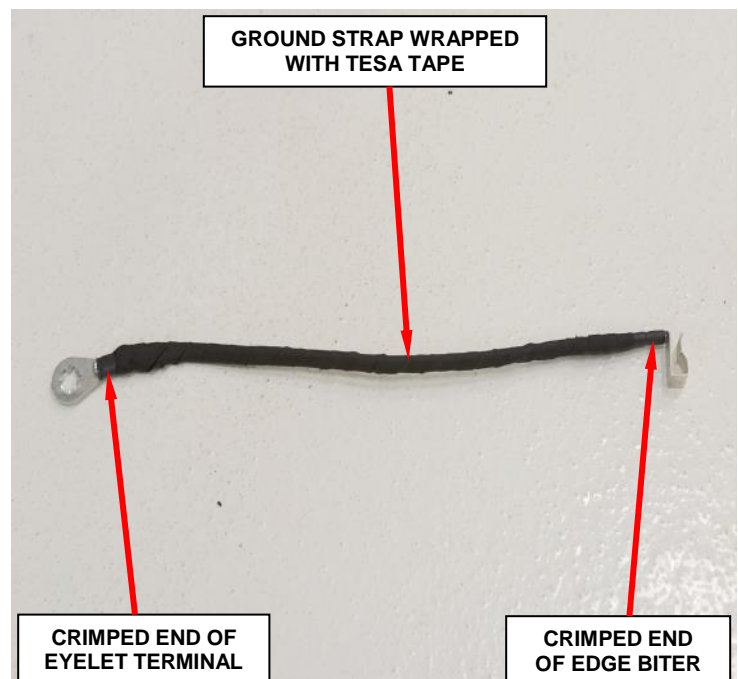

Figure 5 – Tesa Tape Wrap
- a. Using Tesa tape, wrap the ground strap from the crimped end of the eyelet terminal to the crimped end of the edge biter clip (Figure 5).